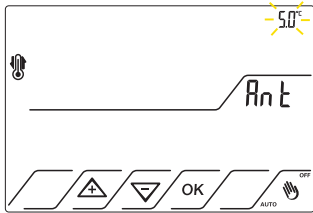

Fig.38
10.4.4 Press  or  to set the desired frost protection temperature. Fig.38